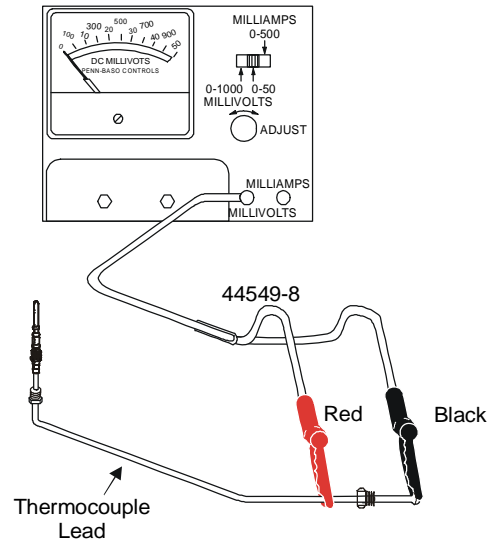

Figure 2: Open Circuit Millivolt Reading Connection Diagram
3. Attach the test cable lead 44549-8 to the thermocouple. Connect the red clip to the copper tubing of the thermocouple and the black clip to the terminal at the end of the thermocouple (see Figure 2).